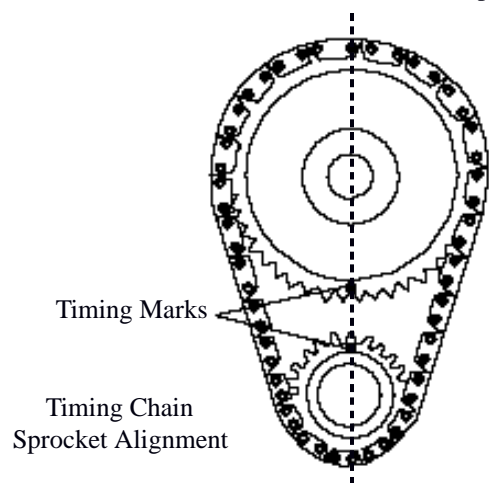

Figure 1
13. Rotate engine until timing marks are aligned as shown in Figure 1.
this camshaft installation. Edelbrock Timing Sets feature three keyways for specific timing selection. Use locking compound material on the bolt threads holding timing gear to cam. Torque to factory recommendations specified in motor repair manual. Install camshaft with timing marks lined up as recommended by factory specifications. See Figure 1.
After the cam is installed and timed correctly (see Figure 1), it will be necessary to check each pushrod for correct lifter pre-load.